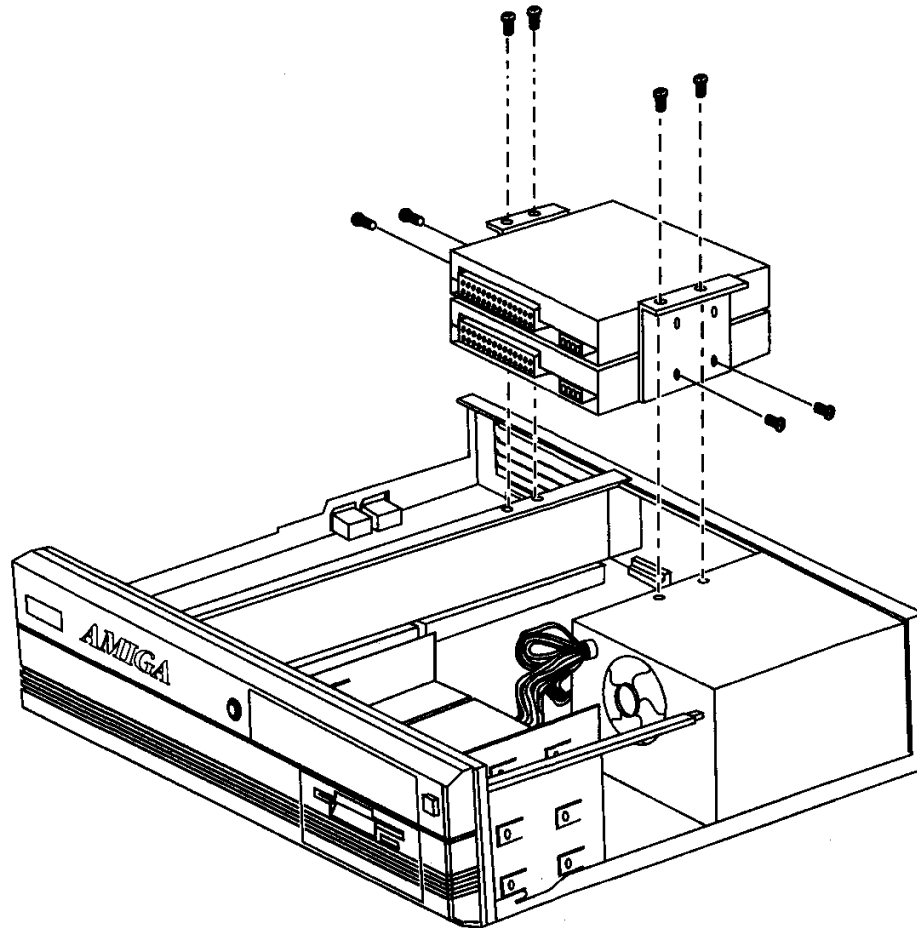

Figure 6-4. Rear drive bay bracket removal
4. Unscrew the four mounting bracket screws and lift the bracket and drive(s) out of the main unit as illustrated in Figure 6-4.